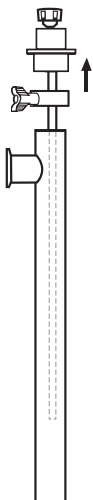

Figure 8
9. Pull straight up separating the inner tube assembly from outer tube assembly (see Figure 8).